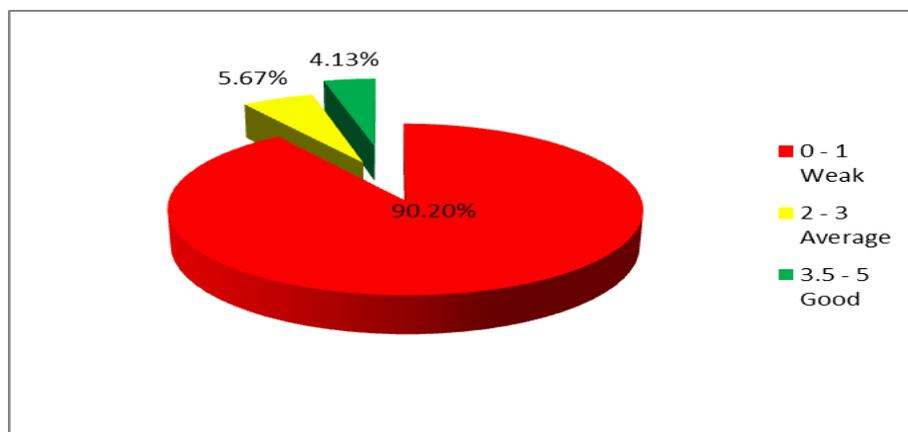

Figure 4: General Student’s performance in question 4
settlement. The question was attempted by 653 students which was equivalent to 99.7% of all the students who sat for this assessment. Out of whom 575 scored 0, twenty seven (27) scored all the 5 marks and 53 got scores that ranged from 1- 4.5 marks. The majority of these students performed poorly in this question as summarized in Table 5 and Figure 4.